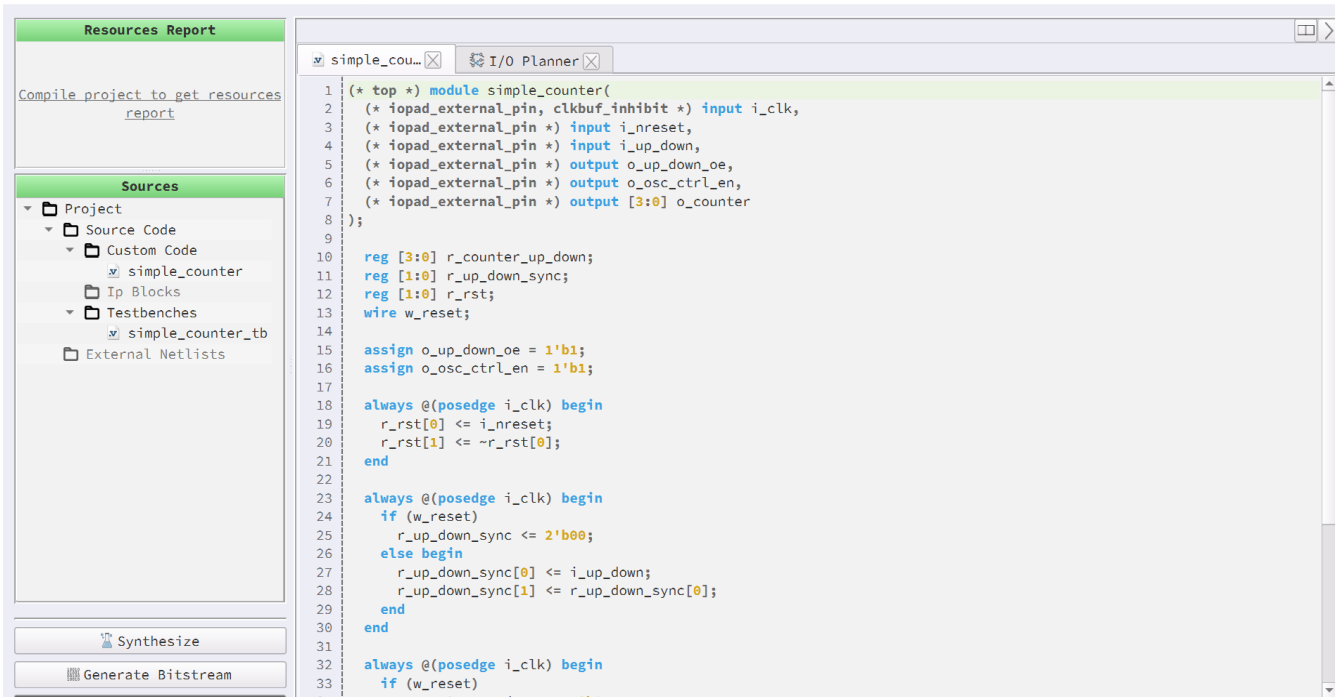

Figure 14. Working with Verilog example
- **(* top *)** – the top module of your design should be marked with this attribute so the toolchain can successfully recognize which of the modules in the design is the top one. Line 1 – [Figure 14]
- **(* clkbuf_inhibit *)** – clock signals in the input list of the main module should be marked with this attribute to prevent clock buffer insertion by the synthesis tool, which may lead to the distortion of the clock signal name in the resulting netlist. This attribute belongs only to Synthesis, the compile process requires the customer to assign IOBs manually on the I/O Planner that are predefined clock trees. Line 2 – [Figure 14]
- **(*iopad_external_pin*)** – all external pins that are used in any module need to be marked with this attribute. Line 2-7 – [Figure 14]